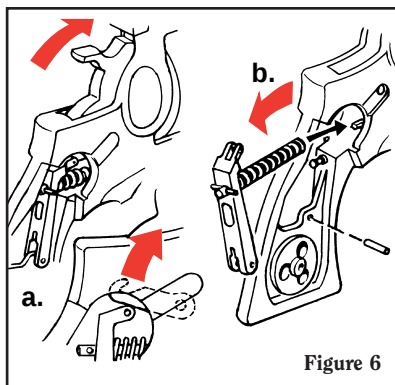
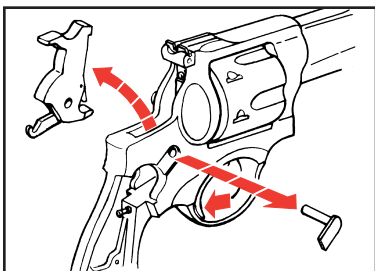

Figure 6
Figure 7
4. With thumb on hammer spur, squeeze trigger allowing hammer to go fully forward. Remove the hammer pivot assembly. With the gun muzzle pointing down, slowly lift the hammer upward and out of the frame (See Figure 7, p. 18). It may be necessary to move the mainspring lever forward in order to cause the hammer link hook to detach from the mainspring lever (See Figure 6 a.). If careful manipulation of the hammer and trigger does not disengage the hook, disengage it with the tip of a jeweler's screwdriver or similar device when the hook is in a near-off position.
5. Push the lever pivot pin out with a small punch or nail and remove the mainspring lever from the frame with mainspring and strut intact. Removal can best be accomplished by twisting the lever slightly as the assembly is drawn from the frame toward the rear (See Figure 6 b.). **CAUTION: Do not remove disassembly pin at this point! Doing so will permit the mainspring to fly off its strut with great force and may cause injury. The pin is to be removed only after the assembly is correctly installed in the revolver during reassembly.**